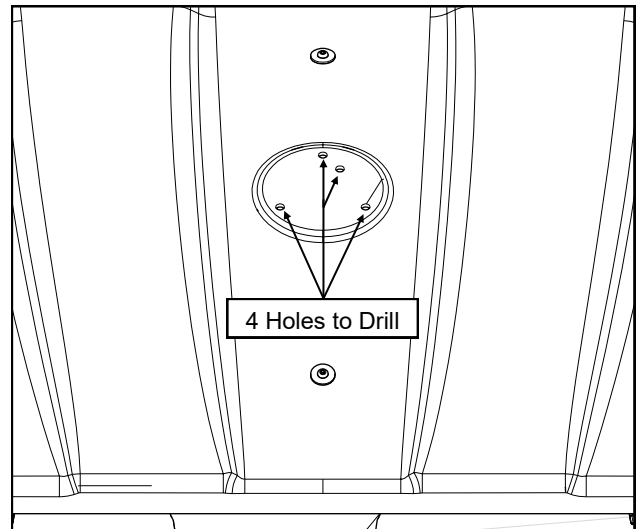

Fig. 2.1
- 2.1 Use the template included with the Beacon Light to locate and drill 4 holes through the raised platform in the center of the plastic roof. As shown in figure 2.1.